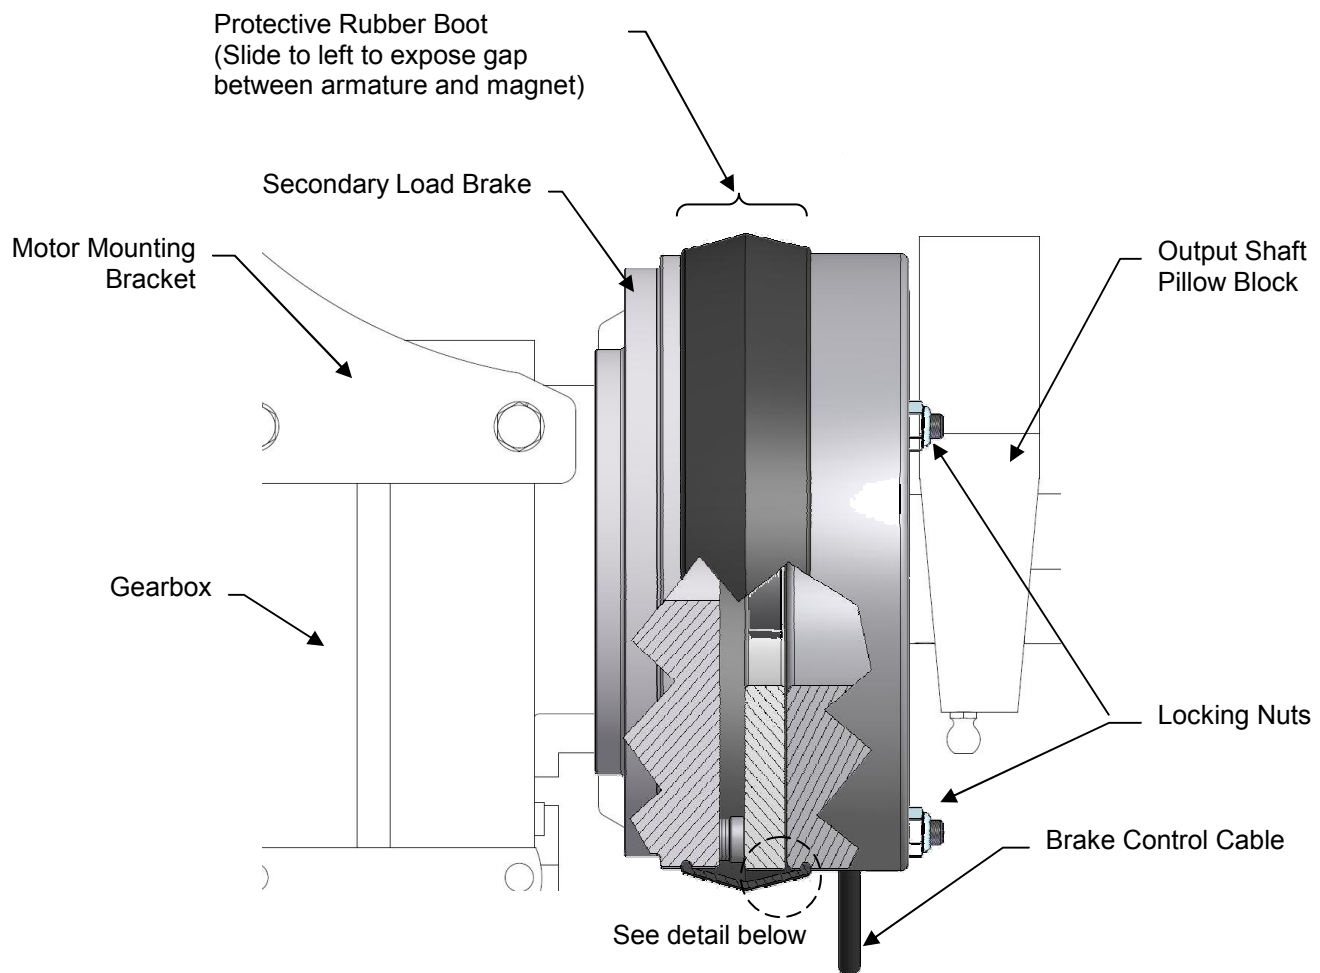

Figure 21A: Side view of brake with rubber boot
3. Slide the protective rubber boot back to expose the air gap between the brake magnet and the armature assembly. The edge of the paper disk will be visible. See Figure 21A and 21B.